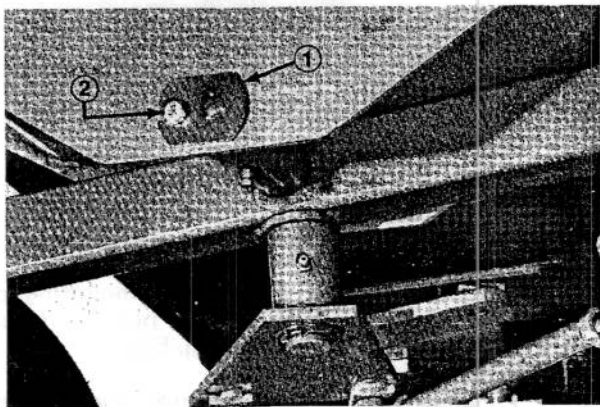
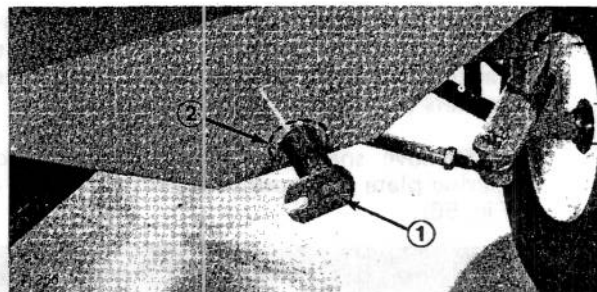

Figure 52
Figure 54
3. Remove capscrew, lockwasher and flatwasher holding outside of axle pin to chassis (Fig. 52).
9. Move rear axle into position at rear of machine. Mount axle between two sections of frame with axle pin and two thrust washers (Fig. 54). The thrust washers must be positioned at ends of the axle pivot tube and between both sections of the frame. Secure axle pin in place with capscrew, lockwasher and flatwasher (Fig. 52).
12. Move rear axle into position at rear of machine. Mount axle between two sections of frame with axle pin and two thrust washers (Fig. 54). The thrust washers must be positioned at ends of the axle pivot tube and between both sections of the frame. Secure axle pin in place with capscrew and lockwasher (Fig. 52).